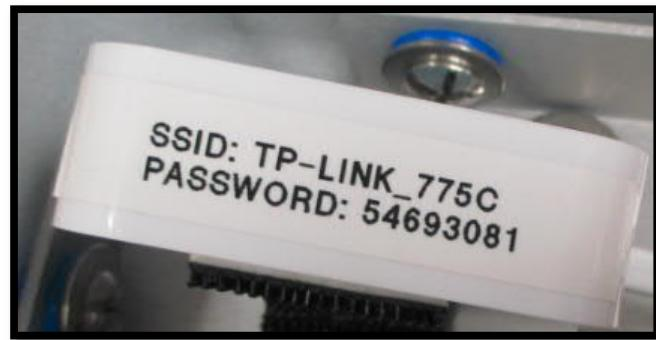

Figure 52: Router SSID and Password Location
1. Using a phone, tablet, or laptop, connect to the router using the SSID and password on the router. (Figure 52)
2. Connect to the wireless SSID network listed on the router sticker. Enter the TP-Link wireless router (example: TP-LINK-775C) as shown in Figure 52.
4. Enter the wireless password printed on the router sticker. (Figure 52) Every router has a different, unique SSID number, and wireless password.
2. Connect to the wireless SSID network listed on the router sticker. (Figure 52)
4. The *Enter Password* screen appears. (Figure 66) In the Password field, enter the wireless password on the router sticker. (Figure 52)